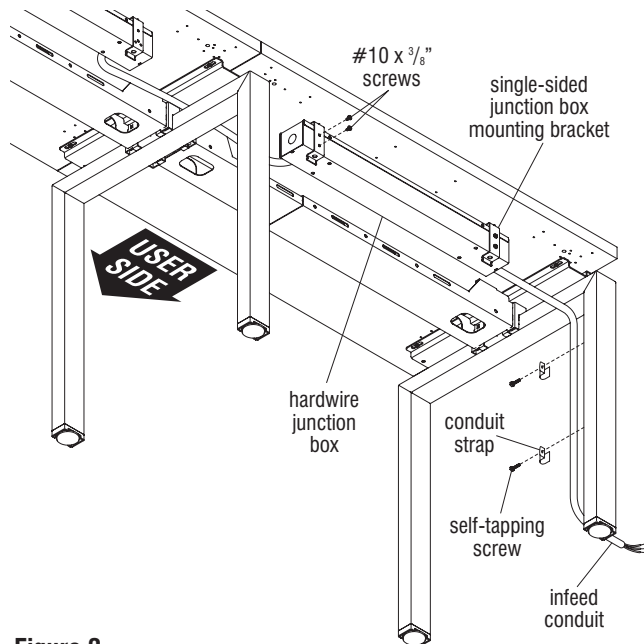

Figure 2
5. With the assistance of two or more people, move the hardwired electrical assembly rearward (opposite the user side), under the worksurfaces. Route the pass-through conduit over the shared leg tops and position the hardwire junction boxes up to the hardwire box mounting brackets. Finally, align the mounting holes of the hardwire boxes with the holes in the hardwire box mounting brackets and secure using two #10 x 3/8" screws per bracket (Figure 2).
6. Route the flexible infeed conduit (customer supplied) along the leg and mark the pilot holes where the conduit straps (customer supplied) will be installed. It may help to position the straps over the flexible conduit on the leg to assist in marking the pilot holes (Figure 2).
7. Position the flexible conduit out of the way. Use a hammer and punch to mark the location, then drill pilot holes, using an appropriate size drill bit in the leg at each conduit strap mounting location (Figure 2).
8. Position the straps over the flexible conduit and secure to the leg using appropriate self-tapping screws (customer supplied). Be careful to not over tighten (Figure 2).